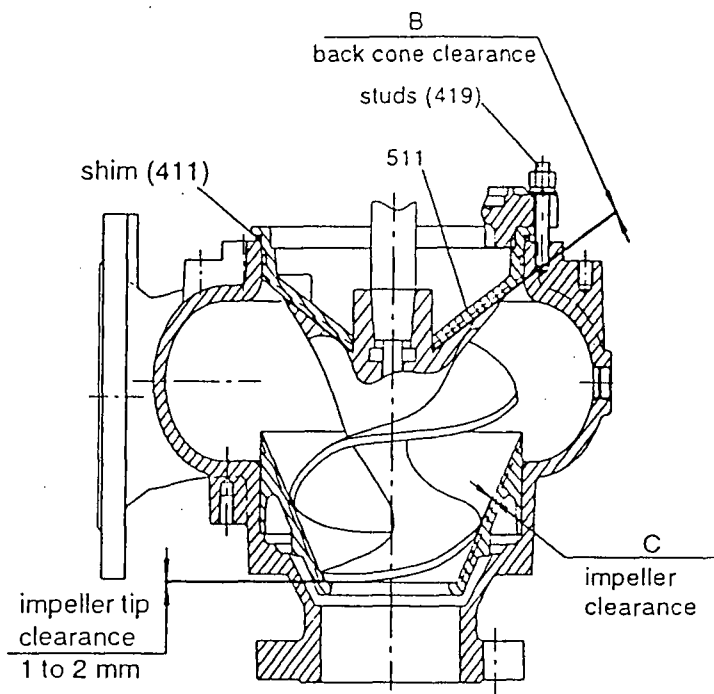

Fig. 3
- When pumping thick sludges or high consistency material, it may be necessary to double the clearances in Figure 3.
- Regulable pumps are adjusted by means of a movable liner (421); its position is regulated by three external regulator nuts (422) found on the suction casing (416) or volute casing (400). These pumps include the letter "R" in the pump code (Section 3.0).
- Other pumps have a one-piece suction cover (402), or in pumps C0CQ and D0DQ a fixed liner (421); these pumps are adjusted by changing the thickness of the shims (411) between the drive unit and the volute casing (400).
With a feeler gauge, check the actual clearance between impeller and liner (reaching in through the suction of the pump). If the clearance "C" is significantly different to the table (Fig. 3), it is possible that the wear is excessive or not uniform: disassembly and inspection is recommended.
To estimate correct shim (411) thickness, lower drive unit into casing just until impeller cannot be turned. Measure gap between drive unit and volute casing at several places and take average. Now add the distance "B" (Fig. 3) to the average gap measured; this will be approximate shim thickness required to obtain correct clearance "C" (Fig. 3).
Tighten fasteners (419) again, and with a feeler gauge, check the actual clearance between impeller and liner (reaching in through the suction of the pump). If the clearance "C" is significantly different to the table (Fig. 3), it is possible that the wear is excessive or not uniform: disassembly and inspection is recommended.